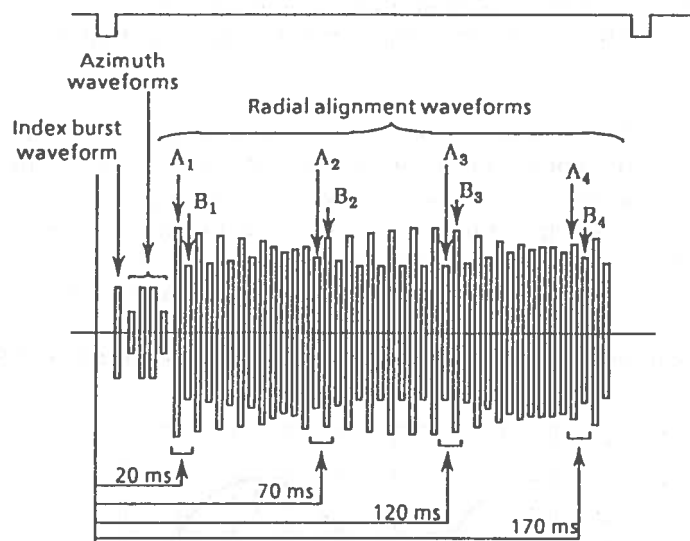

Fig. 9.3 Alignment Waveform (DAD)
- (4) Watch the output waveforms for sides 0 and 1. They should appear as shown in Fig. 9.3.
- (5) Measure the timing levels A_1 to A_4 and B_1 to B_4 in Fig. 9.3, and calculate the lobe ratio from the following formulas.